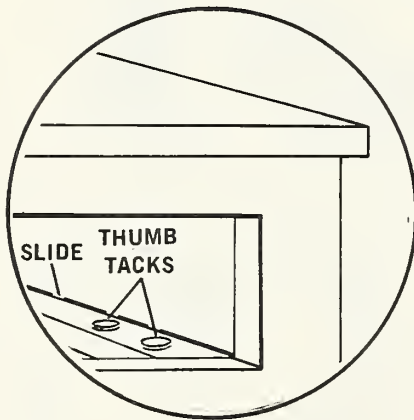

Fig. 5
4. If glides are badly worn, the drawer may not close all the way. The drawer front strikes the frame. The drawer needs to be lifted. Remove it and insert two or three large smooth-head thumbtacks along the front of each glide. (Fig. 5)